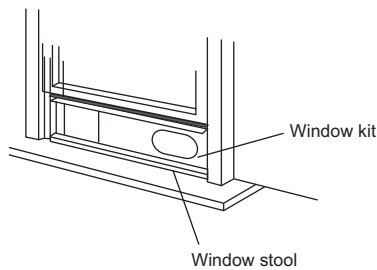

Fig.10
3. Cut the foam seal(adhesive type) to the proper length and attach it on the top of the window. Show as in Fig.10.